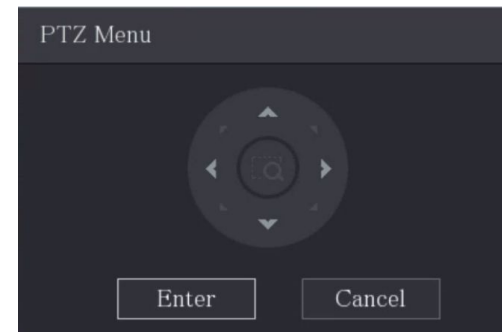

Figure 3-2
**Step 2** Click  to open PTZ Control Panel then click  to open OSD. The Use the up and down buttons to select menu item and the left and right to change parameter values. Click Enter to confirm. See Figure 3-2.